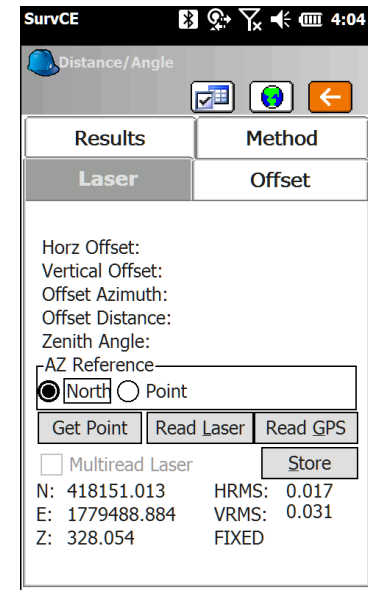

Figure 8
4. Aim at the target with the laser and tap the Read Laser button to fire it. (Fig.8)